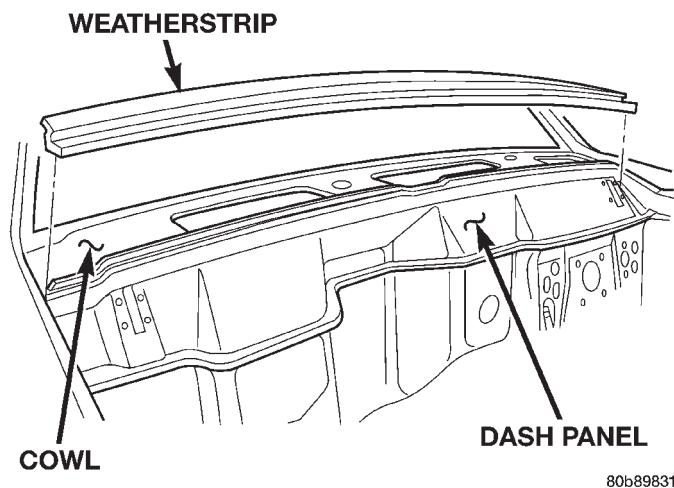

Fig. 10 Cowl Weatherstrip
- (1) Peel weatherstrip from cowl (Fig. 10).